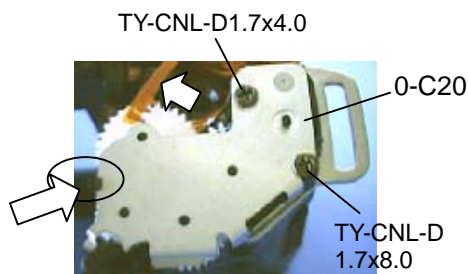

Fig.97
- 6) Install 0-C20 with hooking it to the place indicated by arrow in Fig.97.